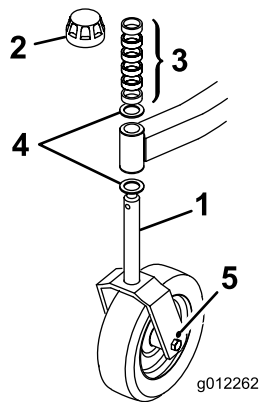
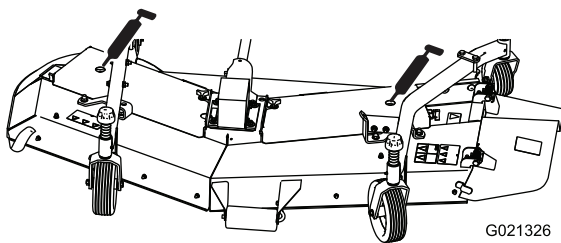

Figure 14
Figure 18
Note: A more optimum cutting appearance of the turf can be achieved in the lower heights-of-cut by lowering the rear of the cutting unit. Accomplish this by relocating the rear castor wheel axles in the upper hole of the caster forks (Figure 14). Place the axles into the lower castor fork holes for higher height-of-cut settings where optimum cutting appearance is not required.
2. Remove the tensioning cap from the spindle shaft. Slide the spacers onto the castor spindle to get the desired height-of-cut (Fig. 18 and 19). Then slide the washer (Figure 14) onto the spindle.
3. Push the castor spindle through the front castor arm, install the other thrust washer and remaining spacers onto the spindle, and install the tensioning cap to secure the assembly (Figure 14).
- Blade spindle bearings – 2 (Figure 18)